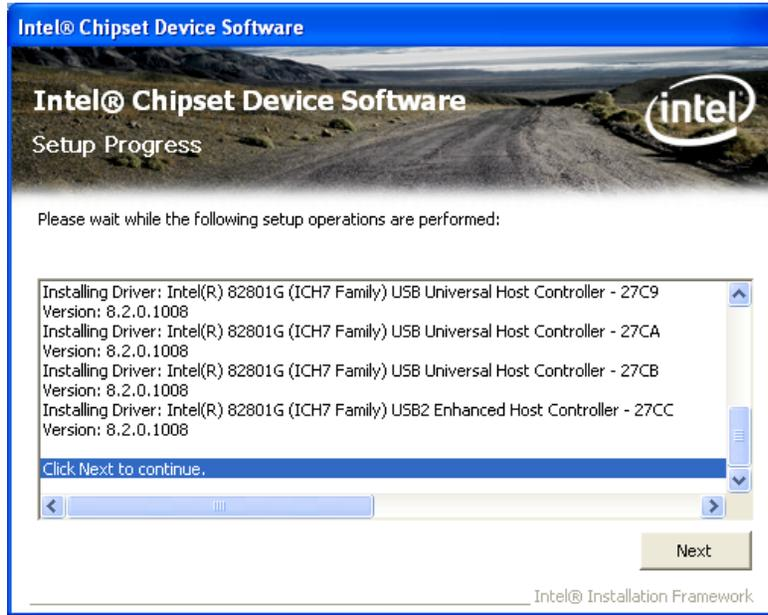

Figure 6-7: Chipset Driver Setup Operations
Step 12: **Setup Operations** are performed as shown in **Figure 6-7**.